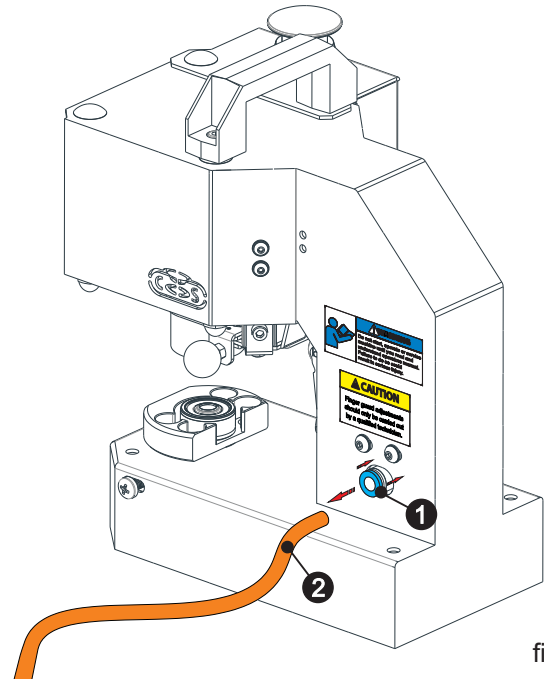

fig. 59
Shut down your air source and unplug the air hose from the machine. In order to unplug the air hose from the machine, push the blue part on the air entrance ① to the machine direction and while doing that pull the air hose ② at arrow direction as shown in (fig. 59).